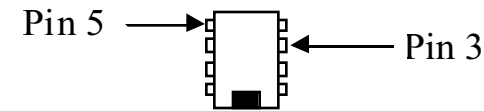

Figure 19
- Touch the voltmeter's (+) lead to **pin 3** of U5 (see Figure 19). **Note:** There will be a DC voltage on this pin during transmit, even though the KAT100 is not connected to a power supply.
Touch the DMM's (+) lead to **pin 5** of U5 (see Figure 19).
Touch the voltmeter's (+) lead to **pin 3** of U5 (Figure 19).